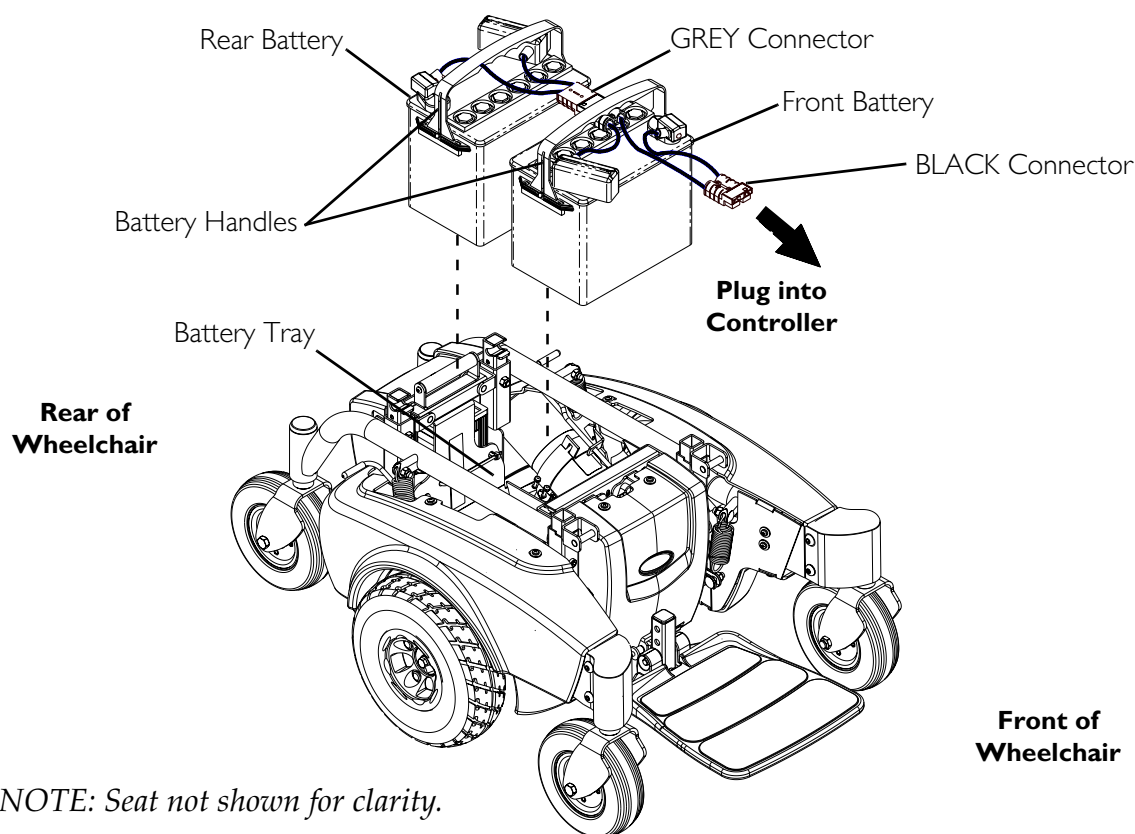

FIGURE 17.2 Removing/Installing Batteries from/into Battery Tray
NOTE: For this procedure, refer to FIGURE 17.2 on page 58.
2. Position front battery in rear of battery tray and slide forward into position (FIGURE 17.2).
3. Position rear battery in rear of battery tray (FIGURE 17.2).